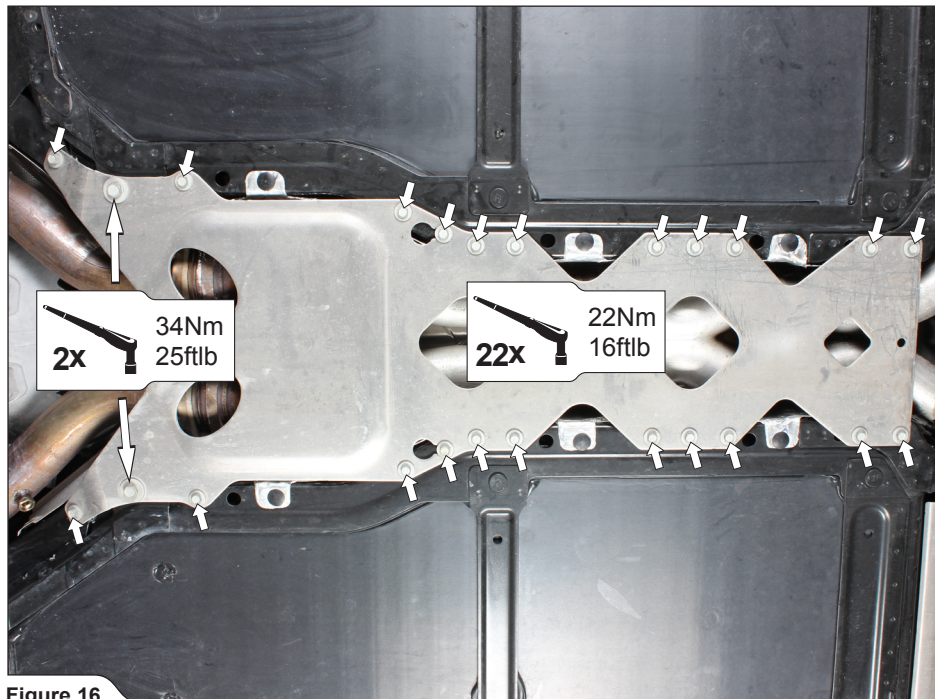

Figure 16
2. Reinstall the chassis reinforcement (Figure 16).